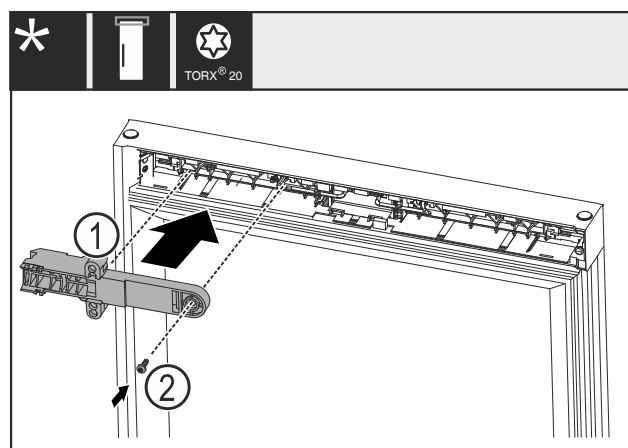

Fig. 23
- Turn the lock holder Fig. 23 (1) by 180° and attach on the opposite side.
- Fasten the lock retainer Fig. 23 (1) with a screw Fig. 23 (2).